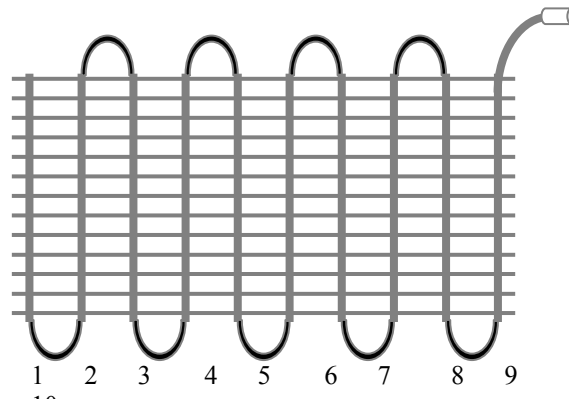

Figure 1. Radiator coil leaks
4. Attach the yellow pointer to the detector and put head phones. Press and hold the red button and move the detector and locate all leaks and place a cross mark on the Figure 1 to indicate the locations. Label them A, B, C, D, etc.